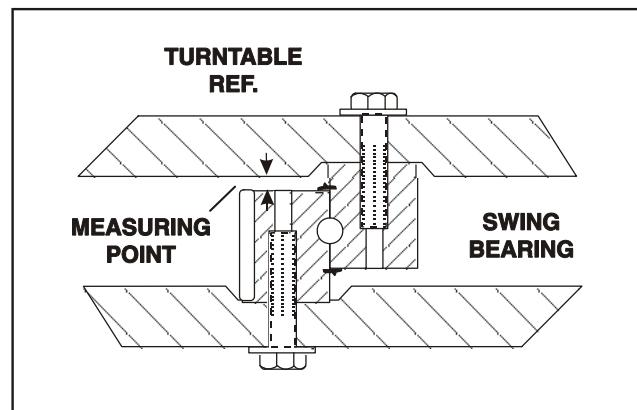

Figure 3-14. Swing Bearing Tolerance Measuring Point
- At the same point, with the boom positioned over the side of the machine, the Upper Boom fully elevated and the Mid/Lower Boom fully elevated, (See Figure 3-13.) using a magnetic base dial indicator, measure and record the distance between the swing bearing and turntable (See Figure 3-14.).